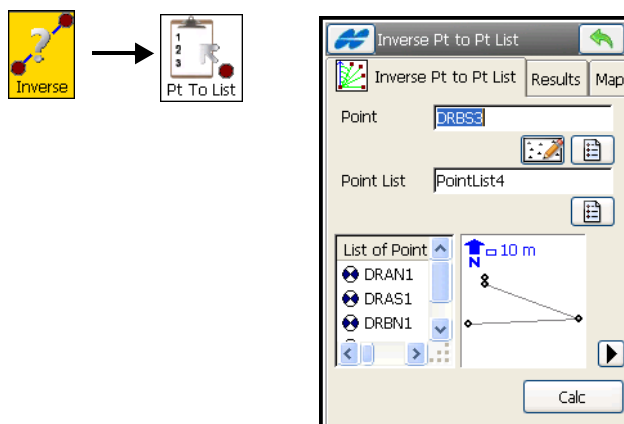

Figure 10-2. Inverse Point to Point List
1. On the *Inverse Pt to Pt List* screen (Figure 10-2), select a point and a point list (Figure 10-2).